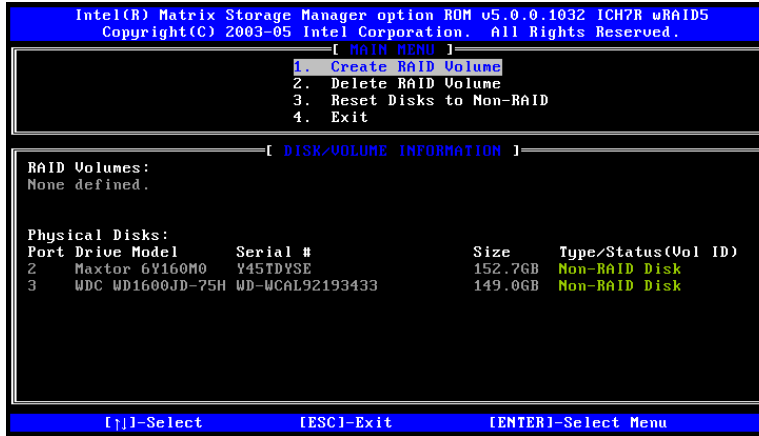

Figure G-1: Matrix Storage Manager Main Menu
Step 1: Select “Create RAID Volume.” Use the arrow keys to highlight **Create RAID Volume** and press **ENTER**. See Figure G-1.